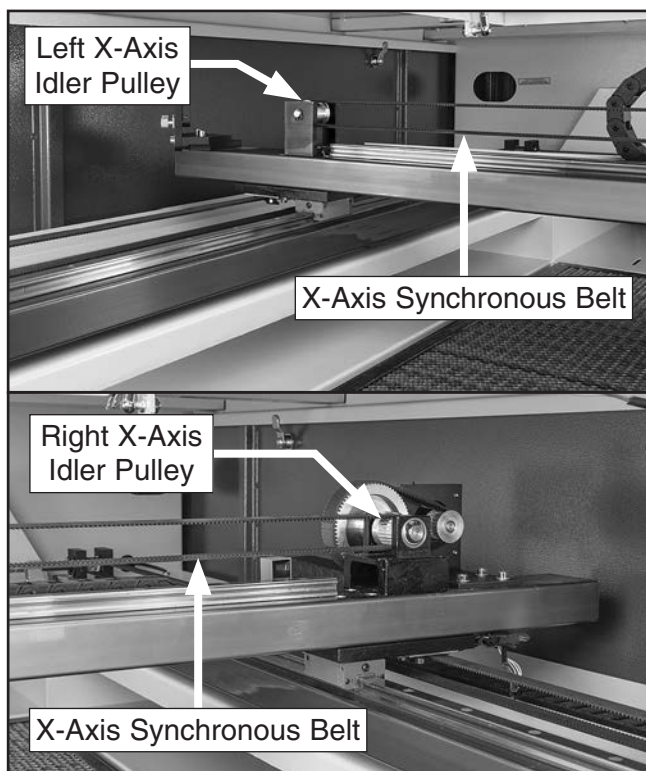

Figure 82. Left and right X-axis idler pulley locations.
5. Remove belt from idler pulleys on both sides of gantry, then remove belt from machine (see **Figure 82**).